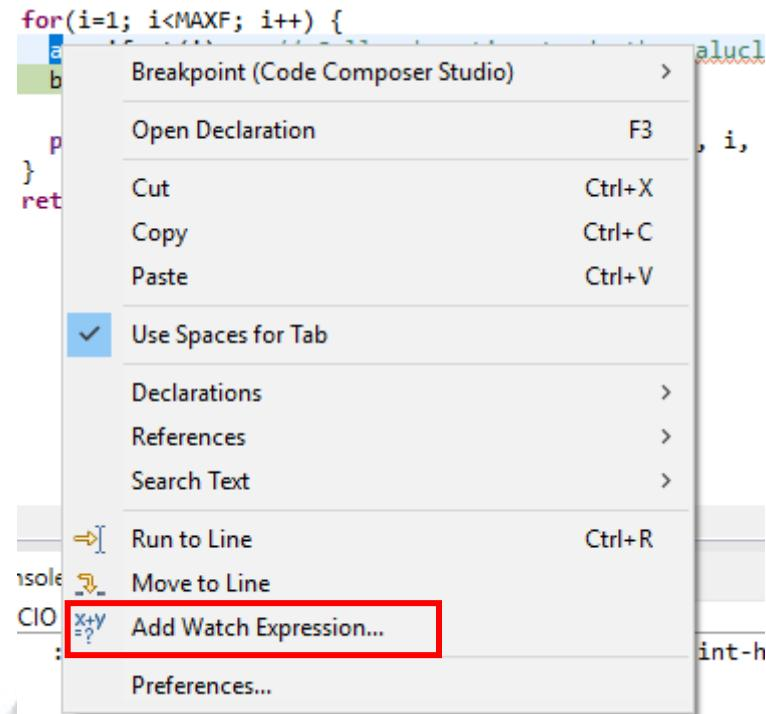

Figure 18. Text Options Menu
Step 1. Double click one of the variables to highlight it in the source code. Next right-click it and select “Add Watch Expression...” (Figure 18).